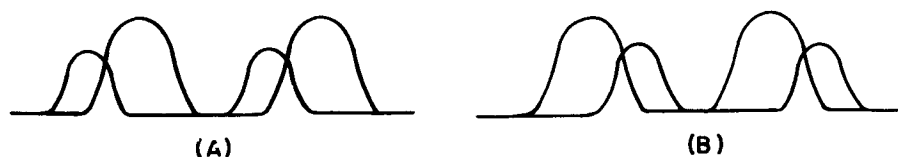

Figure 6-8. Overall System Delay Measurement Waveforms
Step 5. Adjust pulse-sweep generator BALANCE control so that reference pulses have slightly larger amplitude than radio set output pulses. A pattern similar to that shown in figure 6-8 should be obtained on oscilloscope.
Step 6. If pattern such as that shown in figure 6-8 is obtained (radio set output pulse pair to left of reference pulse pair), overall zero-distance delay is less than 50.2 microseconds and the next step should be performed. If it is to the right, the zero delay is too great; proceed to step 8.
Step 7. Change CRYSTAL SELECTOR switch on pulse-sweep generator panel to position 2. Observe that pattern is as shown in figure 6-8. If radio set output pulse pair is to left of reference pulse pair, zero-distance delay is less than 49.8 microseconds,